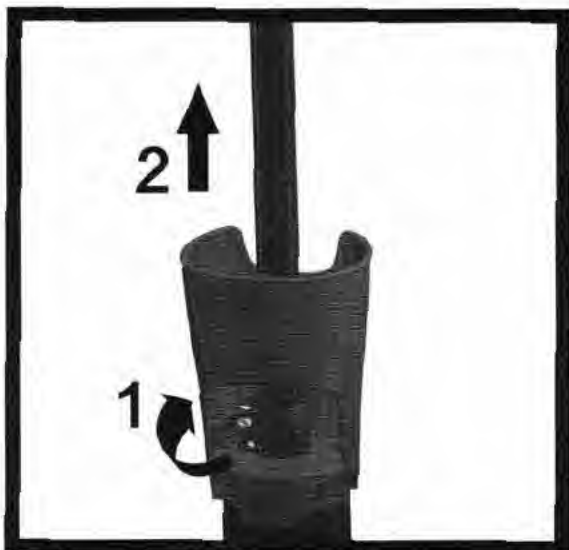

Fig. 3
1. Once deployed, release the clamps in order (lowest first) and raise to the desired height (see Fig. 3) then clamp to hold in place.